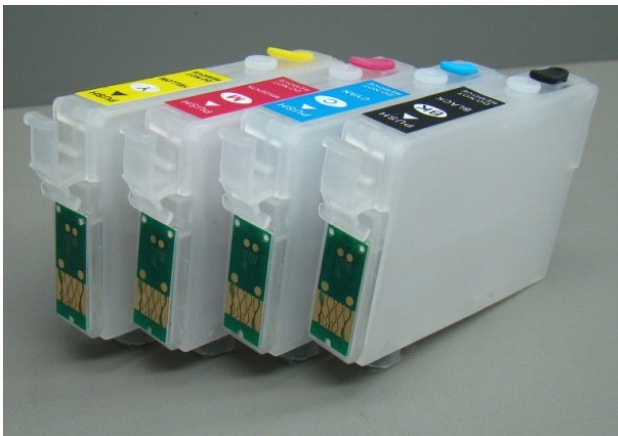

Figure 1
1. When the printer indicates the ink capacity is low, remove the cartridges from the printer (Figure 1).